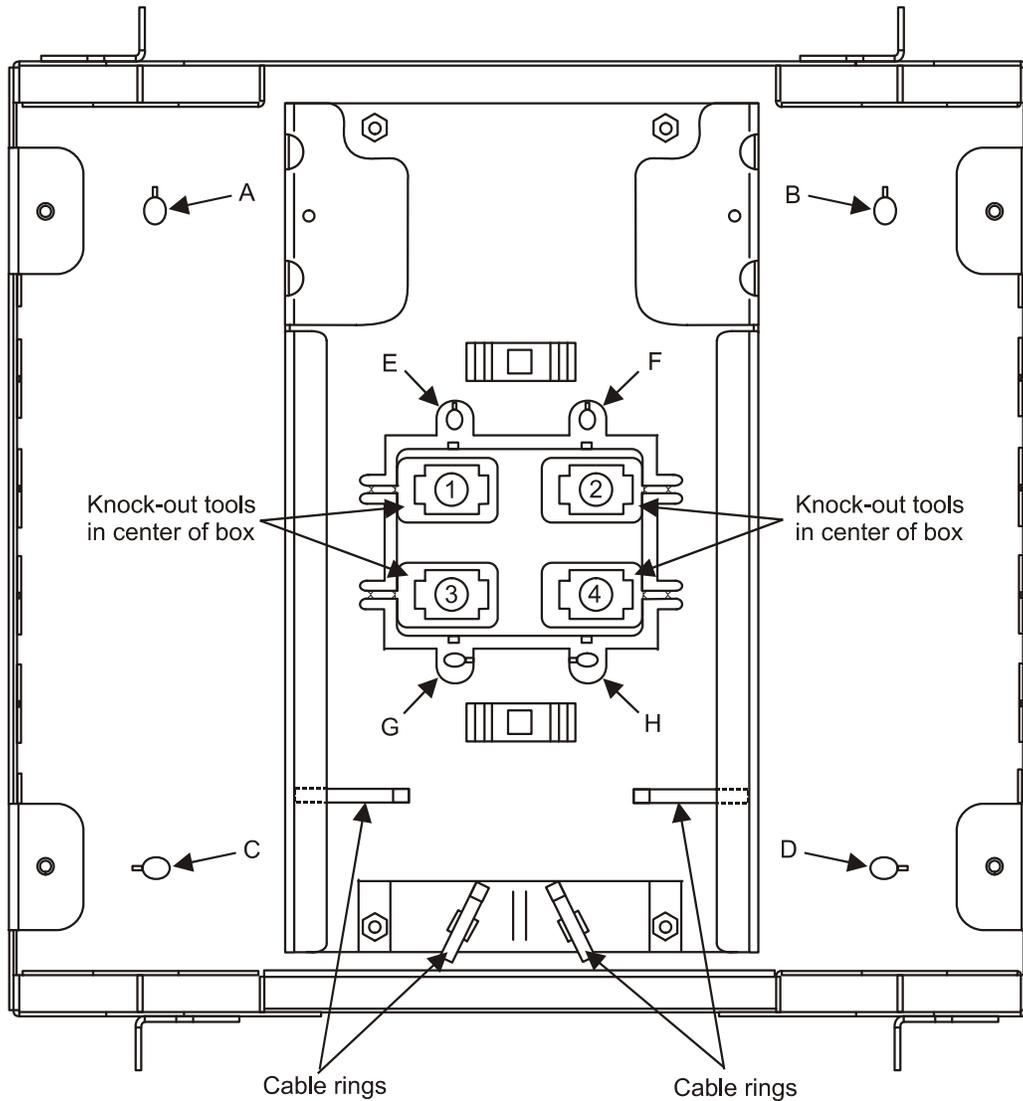

Figure 2 — Mounting Hole Locations
Mount the consolidation point box to a post, wall, floor, or ceiling. Mount it facing out from a wall or post, or in a floor or ceiling installation. For wall or floor mounting, use four No. 8 screws (not supplied) through holes A, B, C, and D (see Figure 2). For wall mounting, use a level to properly level the box before marking locations for the mounting holes.
1. Using a hammer, knock out edge of middle section of center cutout only and remove as shown. Save the four metal tools removed from the center cutout to remove components after they are installed (labeled 1 through 4 in Figure 2).
4. Base requires additional support besides being mounting to an electrical box. While holding base against flat surface, use a pencil or pen to mark four additional mounting points. The four corner mounting holes are recommended (oval shaped openings). Figure 2 shows the four screw holes used to mount the box onto the electrical box (E, F, G, and H).
2. The 3.28 feet (1 m) of fiber should be looped around a minimum of four cable rings (10 included) installed at different locations around the box. The plastic cable rings are pushed into appropriate square punched holes located at various positions around the aluminum panel. See Figure 2 for an example.